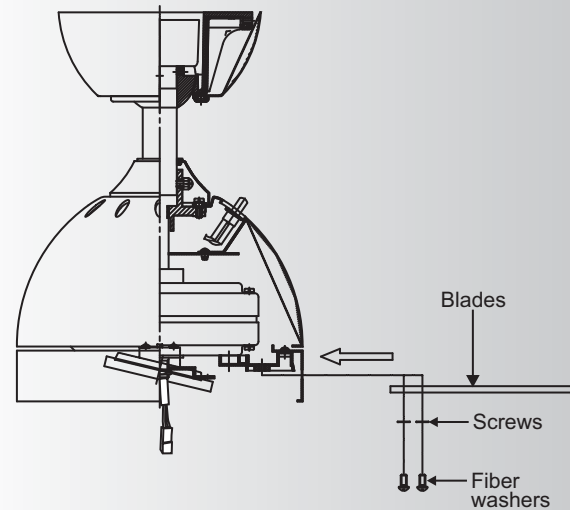

Fig. 16
**Step 2.** Slide the canopy up to the mounting bracket and place one of the key hole slots over the mounting screw on the mounting bracket. Rotate the canopy until the screw head locks in place at the narrow section of the key hole. See figure 16.
Insert the blade through the blade slot in the motor housing. Align the holes in blade and blade bracket, making sure the holes are also aligned and secure with the screws, fiber washers and blade support plates provided. Repeat process with other blades. (Fig. 16)